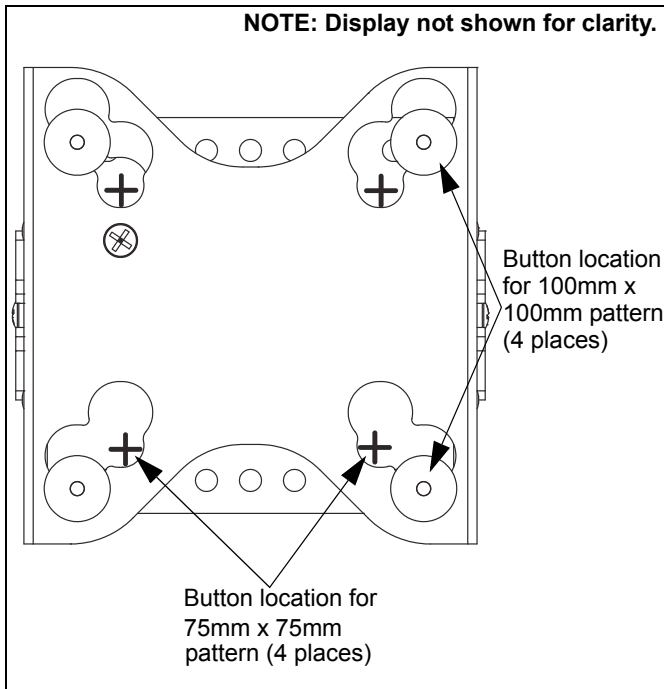

Figure 8
**NOTE:** Mounting buttons are shown in the 100mm x 100mm pattern. FTR (A) will also accommodate a 75mm x 75mm pattern. (See Figure 8)